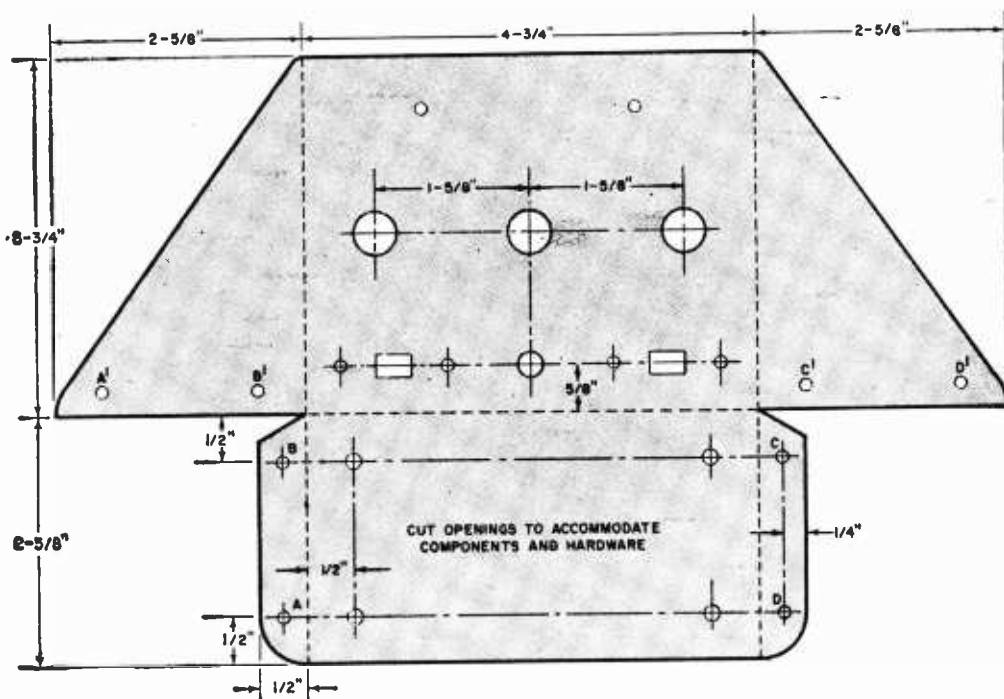

Fig. 3. Chassis can be formed from a thin piece of sheet aluminum. Drill and shape to size as shown.
**Construction.** Almost any type of chassis construction can be used to assemble the *Square Deal*. A deep-drawn aluminum case and a homemade aluminum chassis are shown in the photos. The chassis is a 10" x 6 $\frac{1}{8}$ " x  $\frac{3}{16}$ " piece of aluminum, cut, bent, and drilled as shown in Fig. 3.